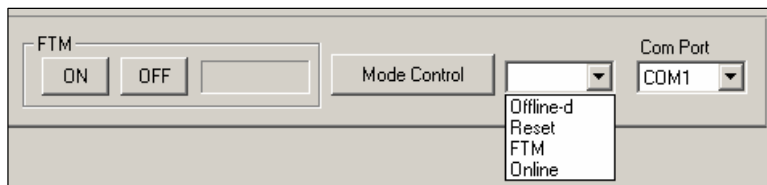

Figure 10-3 Mode control drop-down list
1. Open the drop-down list to the right of MODE CONTROL in the Miscellaneous Configuration bar, as shown in Figure 10-3.